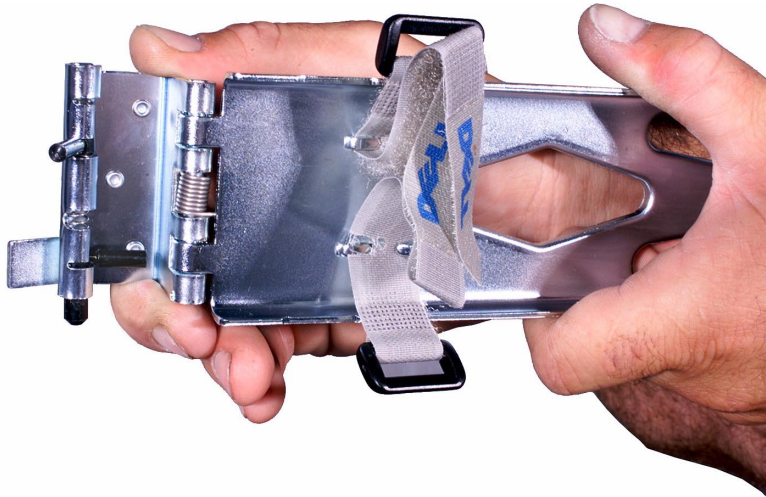

Figure 8. Setting the Disconnect Knob on the Cable Management Arm
2. Pull down the top disconnect knob on the cable management arm, making sure that top pin is retracted and that the bottom pin is extended, as shown in Figure 8.